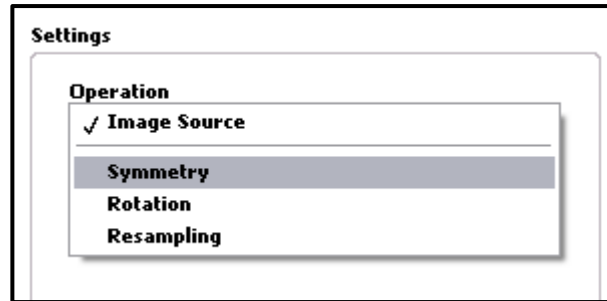

Figure 26. Choosing the operation type.
3. Choose the type of operation [Figure 26].